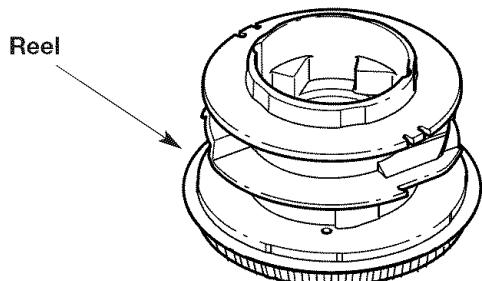

Fig. 22
3. Remove any debris or grass from the knob, spring, reel, and foam seal. Remove any existing line from the reel before cleaning. Wash the reel with warm soapy water (Fig. 22).